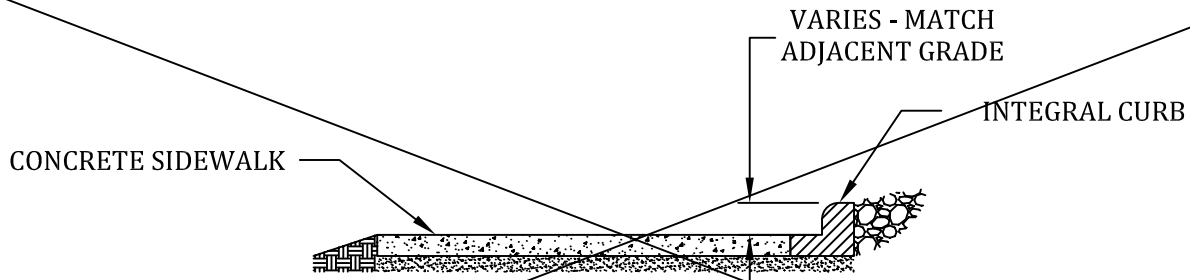

**Figure 6H-6. Shoulder Work with Minor Encroachment (MI) (TA-6)**
\*\* Distances are shown in meters (feet). The column headings A, B, and C are the dimensions shown in Figures 6H-1 through 6H-46. The A dimension is the distance from the transition or point of restriction to the first sign. The B dimension is the distance between the first and second signs. The C dimension is the distance between the second and third signs. (The third sign is the first one in a three-sign series encountered by a driver approaching a TTC zone.)
**Notes for Figure 6H-6—Typical Application 6 (MI)**